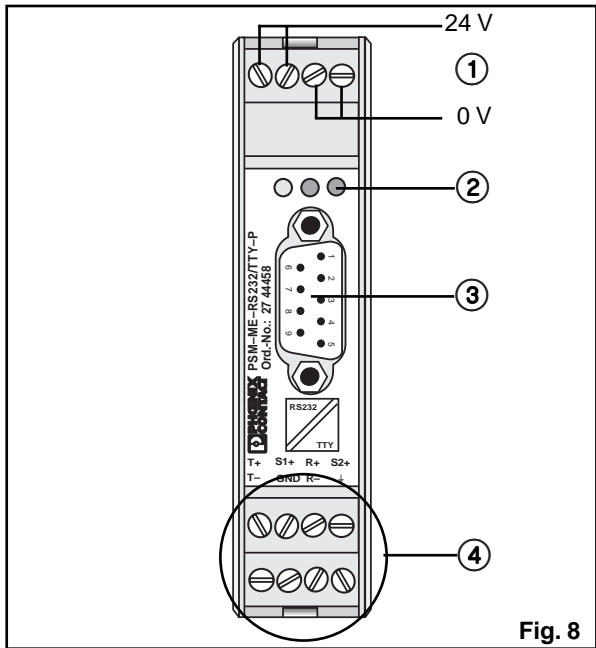

Fig. 8
5.1. Connections (fig. 8)
- ① **Plug connector power supply**